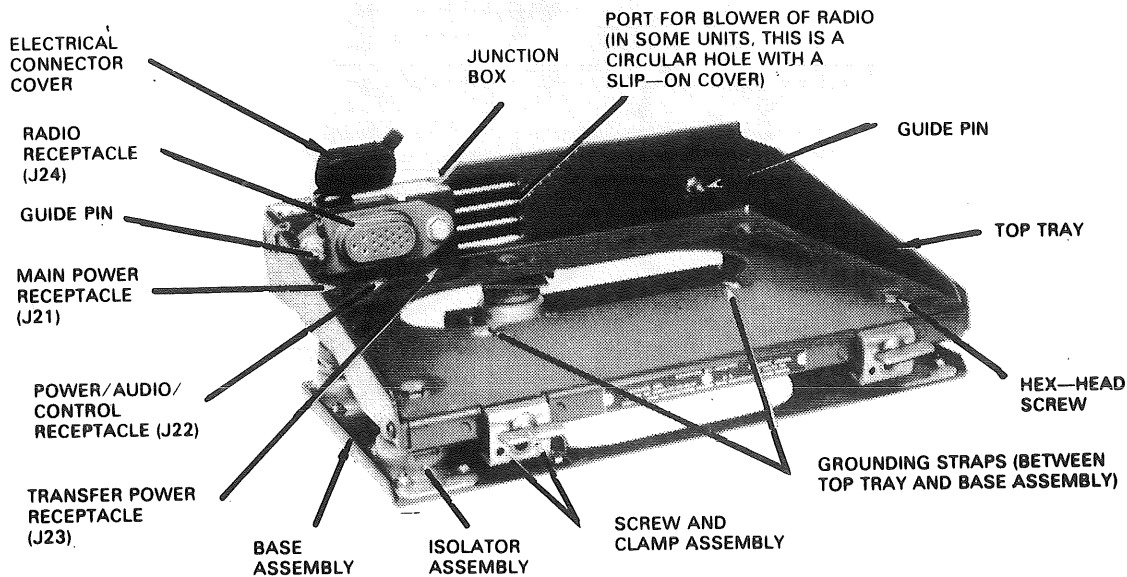

Figure 2. Mounting MT-1029/VRC.
- b. Loosen CLAMPS on Mount, MT-1029/VRC as shown in figure 2.
- d. Mate POWER INPUT CONNECTOR (fig 1) of the amplifier-power supply with the CONNECTOR (fig 2) on MT-1029/VRC JUNCTION BOX. Be sure that GUIDE PINS (fig 2) of MT-1029/VRC are aligned with GUIDE PIN HOLES (fig 1) of amplifier-power supply.
- f. Engages CLAMPS (fig 2) on MT-1029/VDC with CLAMP RECESSES (fig 1) of amplifier-power supply and tighten CLAMPS securely.